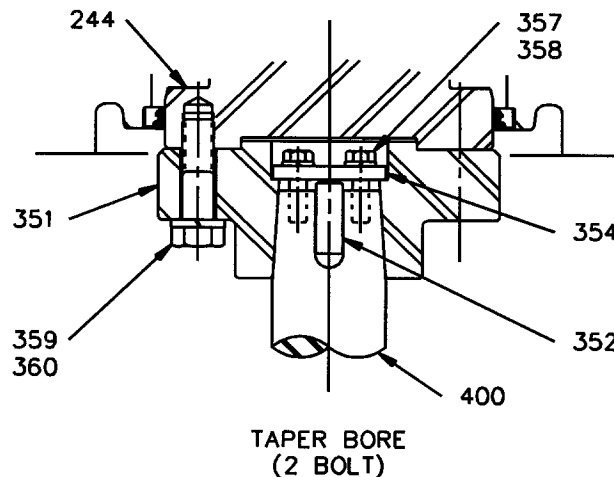

Figure 7: Shaft Coupling Installation
11. Clean the extension shaft [400] and coupling half [351] bore and make sure that both surfaces are free from burrs or nicks. Place key [352] (*Figure 7*) in the coupling keyway to make sure it slides freely. Install the key in the shaft keyway making sure it is properly oriented and fully bottomed in the keyway.